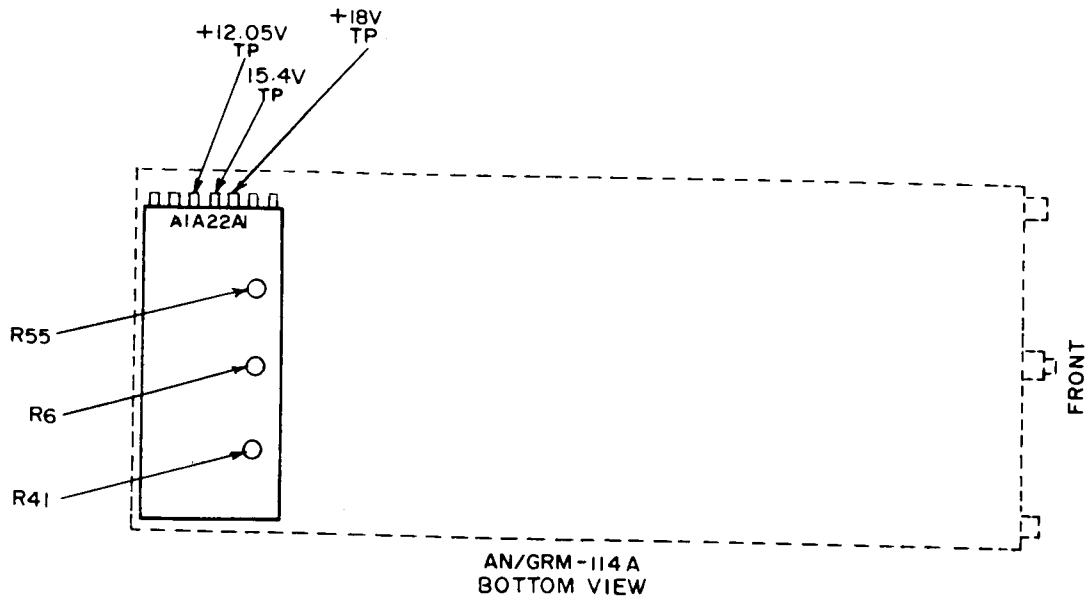

Figure 9. AN/GRM-114A - bottom view.
- (1) Set **PWR-OFF-BATT** switch to **OFF** and remove battery from TI..
- (2) Connect decade resistor across battery terminals.
- (3) Set decade resistor for 150 Ω .
- (4) Connect multimeter to +18V TP (fig. 9) and chassis ground.
- (5) Set **PWR-OFF-BATT** switch to **PWR**. If multimeter does not indicate between 17.6 and 18.4 V dc, perform **b** (1) below.
(6) Move multimeter positive lead to +15.4 V TP (fig. 9). If multimeter does not indicate between 15.55 and 15.25 V dc, perform **b** (2) below.
(7) Move multimeter positive lead to +12.05V TP (fig. 9). If multimeter does not indicate between 11.95 and 12.15 V dc, perform **b** (3) below.
(8) Set **PWR-OFF-BATT** switch to **OFF**, unplug from power and remove decade resistor from battery terminals.
(9) Connect dc power supply and multimeter across battery terminals.
(10) Set power supply voltage for a 12 V reading on multimeter.
(11) Set **PWR-OFF-BATT** switch to **BATT** and slowly reduce dc power supply voltage until TI just shuts off. If multimeter does not read between 10.9 and 11.1 V dc, perform **b** (4) below.
(1) Adjust A1A22A1R41 (fig. 9) for an 18 V indication on multimeter (R).
(2) Adjust A1A22A1R6 (fig. 9) for a 15.4 V indication on multimeter (R).
(3) Adjust A1A22A1R55 (fig. 9) for a 12.05 V indication on multimeter (R).